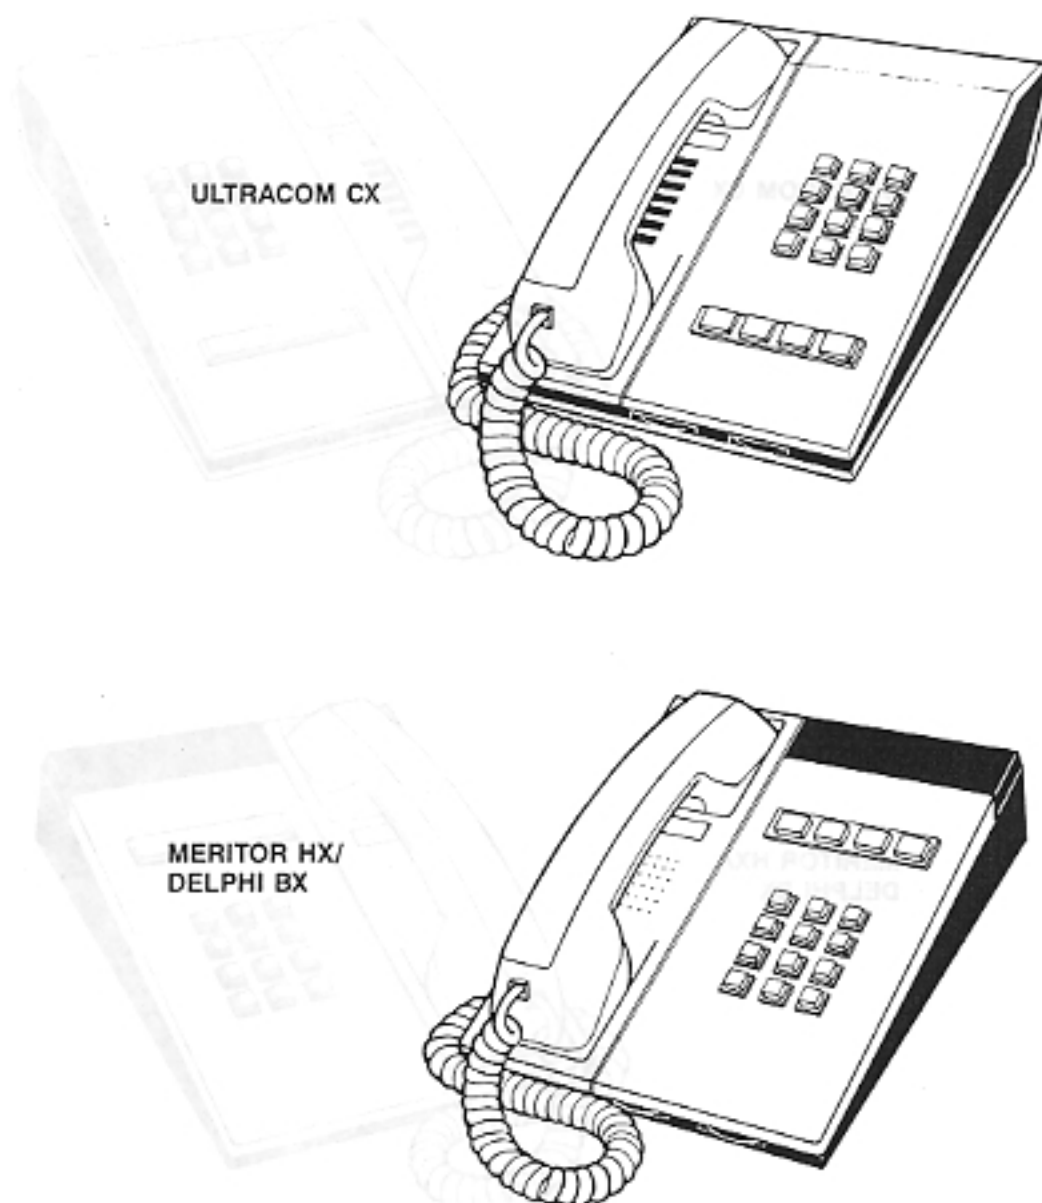

Figure 1-6 FOUR BUTTON KEY TELEPHONE, TCX-128
2.17 The Four Button Key Telephone (Figure 1-6) is used when the sophistication of the multibutton telephone is not required. It provides single button access to many of the commonly used features. Other features are available by dialing access codes. The LEDs in the feature keys provide a visual indication of feature status. Four Button Key Telephone users can answer Intercom calls Handsfree, with the Handsfree Answerback feature.